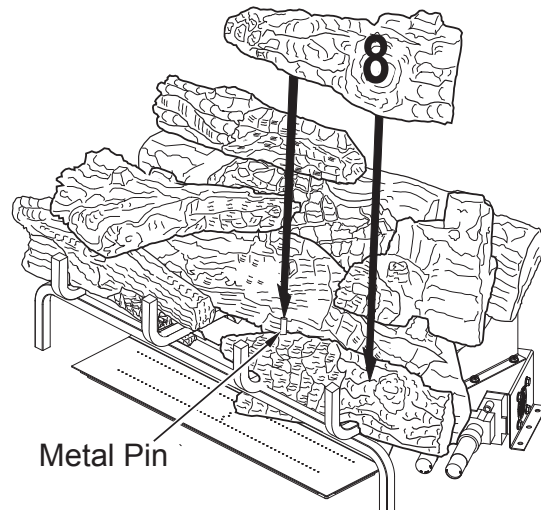

Figure 29 - Installing Log #8
8. Place the front right mid log (#8) on top of the front right log (#4) as shown in **Figure 29**. Match the round metal pin on the top of the front right log (#4) with the round hole on the bottom of the front right mid log (#8).